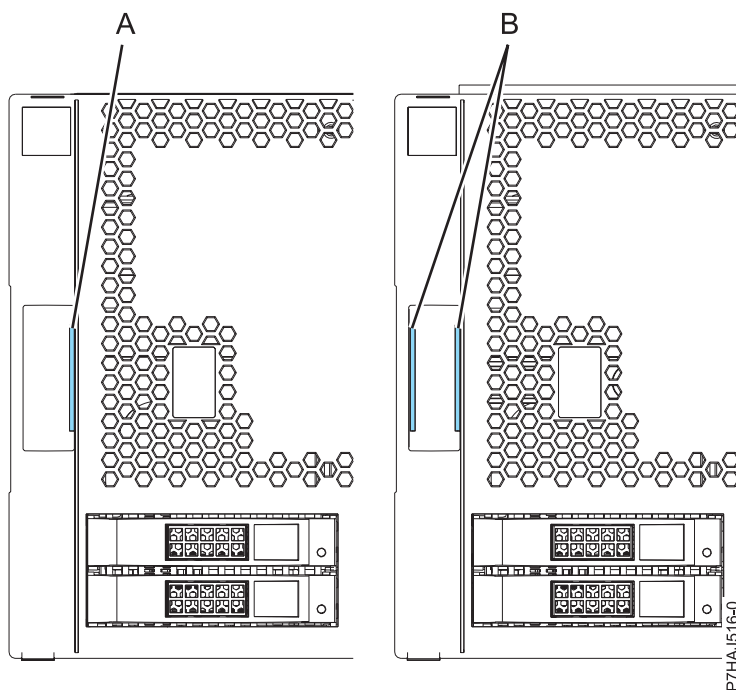

Figure 5. Identifying the older and newer covers
**Note:** The older covers that were shipped before 1 March 2011 can be identified by a single blue stripe (A) on the cover assembly latches. Newer covers that were shipped after 1 March 2011 have two blue stripes (B) on the cover assembly latches. See Figure 5.